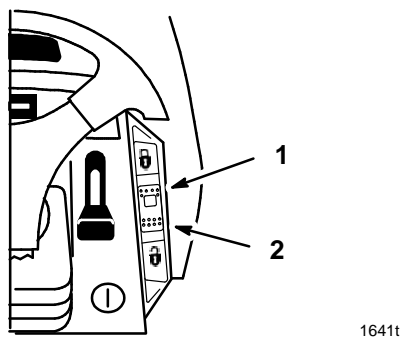

Figure 13
The cruise control is optional on some models. A 3 position: Set-Lock (spring loaded), On and Off-Unlock dash switch (Fig. 13) controls the engagement. Cruise control maintains the traction control position without foot pressure. Cruise control is intended for operation in the forward direction only. Do not use cruise control in reverse.
1. Begin driving tractor: Refer to Driving Forward or Backward, Page 13. While holding your foot steady on the traction control, push the cruise control switch (Fig. 13) to the “SET”–“LOCK” position.
1. While holding your foot steady on the traction control, move the cruise control switch (Fig. 13) to the “UNLOCK”–“OFF” position.